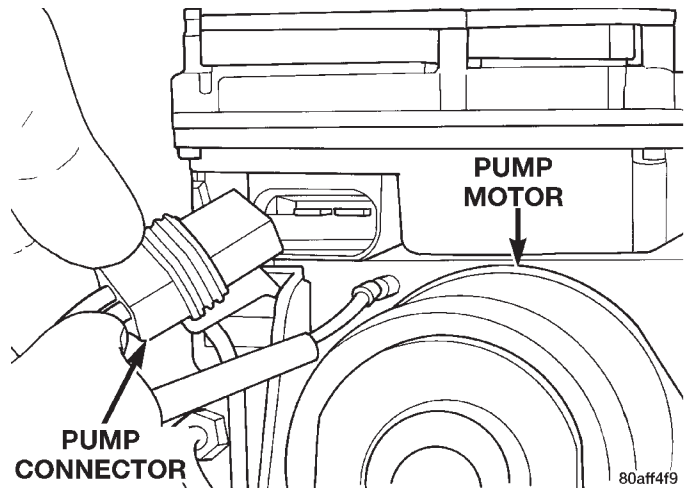

Fig. 4 Pump Motor Connector
- (3) Disconnect the pump motor connector (Fig. 4).